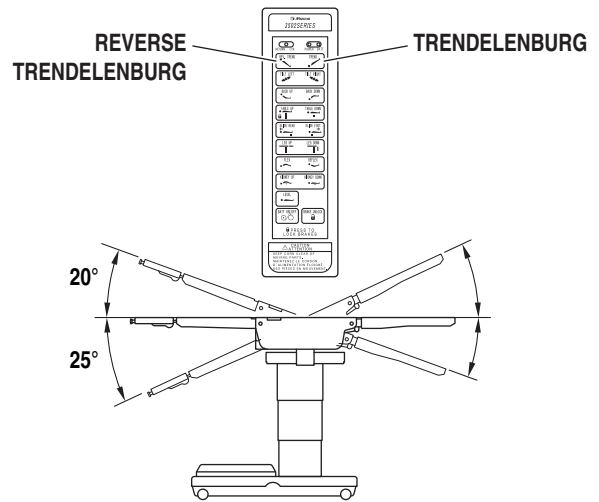

Figure 2-8. Trendelenburg Positioning
b. Trendelenburg To place the table in a Trendelenburg (head down) position, press the TREND button (figure 2-8). Trendelenburg positioning of up to 25° may be obtained. To place the table in a reverse Trendelenburg (head up) position, press the REV TREND button. Reverse Trendelenburg positioning of up to 20° may be obtained.